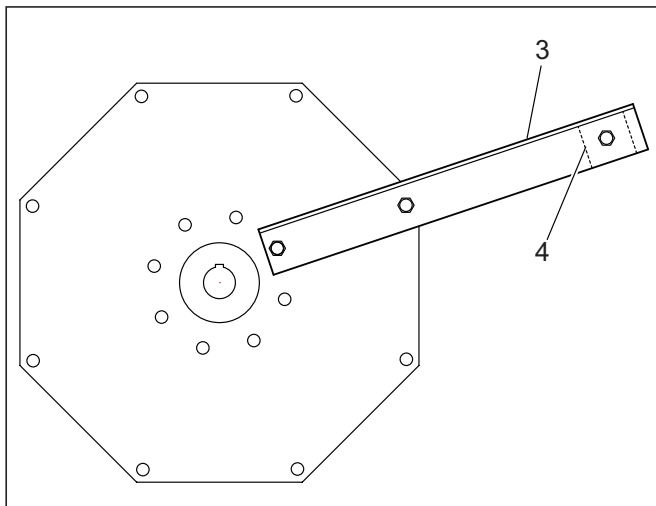

Figure 58
4. Once all the blades have been installed, tighten the bolts holding the arms (item 3 of Figure 58) to a torque of 300 lbs/ft. Bring each blade arm to a vertical position, head down, before tightening the bolts on an arm.